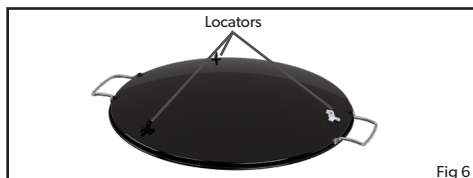

Fig 6
- Do not block or modify the vents of the burner pan (C) in the base plate, as this will affect the airflow to the vents located inside the housing (K) of the support legs. Such a situation will affect the performance of the product and may cause an unstable flame.
- Place the burner pan (C) on the stem and tripod assembly.
- To prepare the Skottel Braai for use place it onto the burner pan (C) so that all three locators (Fig.6) will properly mate with the lip on the circumference of the burner pan (C) thus ensuring a stable fitment.